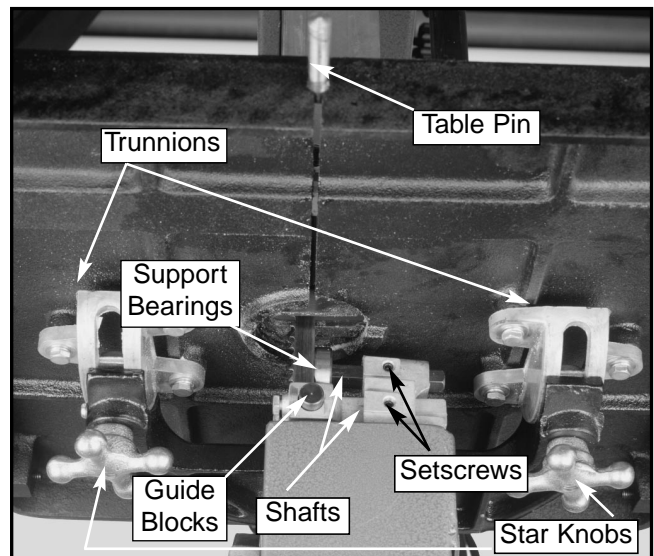

Figure 11. Lower guide adjustments.
Adjustments for the lower guides are identical to those for the upper guides. Use **Figure 11** to identify the lower guide assembly components.
1. Loosen the two star knobs below the trunnions. **See Figure 11** for location.